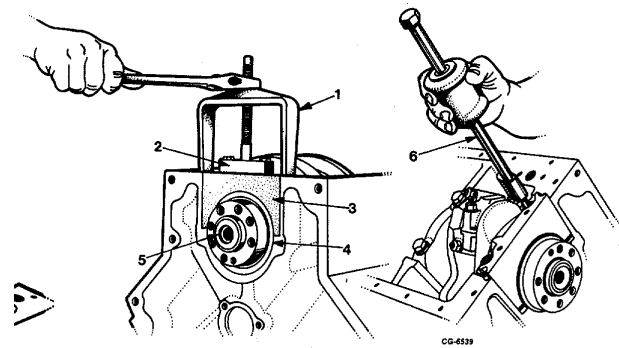

Fig. 74 Pulling Rear Main Bearing Cap (No. 5)
76. Use puller SE-1719 and adapter SE-1719-3 to remove rear (No. 5) main bearing cap (Figure 74). Slide hammer SE-1746 with remover tool SE-2093 may be used to remove rear bearing cap.